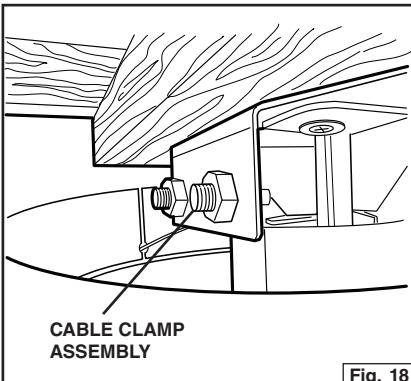

Fig. 18
- D. When assembly is all the way to the top inside of hood, completely tighten barrel nut. Fig. 18.